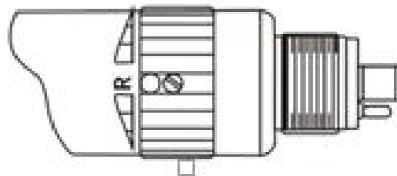

Fig. 3
- **REVERSE:** turn the rotating ring to “R” (Fig. 3).